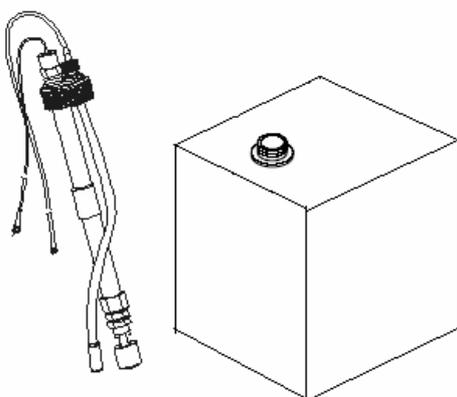

Figure4-9
1. Take out the diluent pickup tube with a green connector (Figure 4-9) from the accessory box;